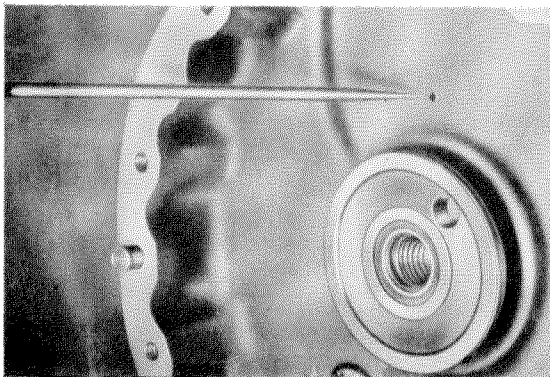

Figure 01-26/4
5. Clean all oil passages thoroughly. For this purpose remove the two screw plugs in the front and rear of the main oilway (see Figure 01-26/6). The oil passages and the hole in the front end for the lubrication of the timing gears of OM 636 (Figure 01-26/4) must be thoroughly cleaned with brushes and wires and then blown out with compressed air.